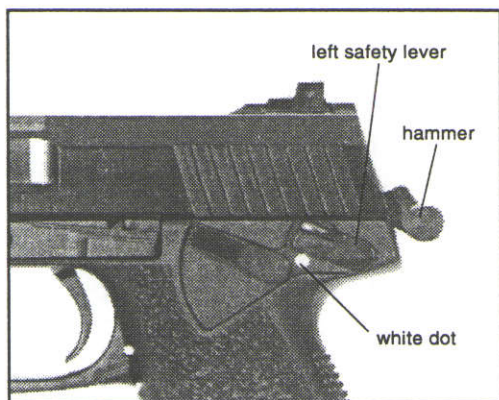
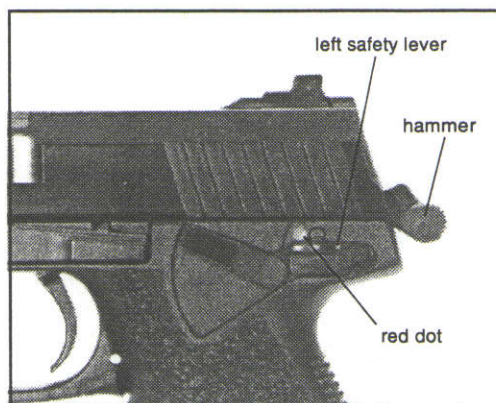

Figure 4a Safe Position
Figure 4b Fire Position
- A. **Double/Single Action** - For double-action (DA), pulling the trigger will cock the hammer and immediately release it discharging a chambered round. To fire the first chambered round in single-action (SA), the hammer must be manually cocked before pulling the trigger. All shots after the first one will be fired single-action because the slide automatically recocks the hammer after each shot.
E. **Safety Lever** - The safety lever is an ambidextrous “thumb” lever located on the rear of the frame. It is actuated by the firing thumb of the operator. The safety lever blocks the release of the cocked hammer when it is in the engaged (up) “safe” position (See Figure 4a). The safety lever is depressed downward into the “fire” position (See Figure 4b). The safety lever is not spring actuated and therefore must be moved manually from one position to the other by the operator.